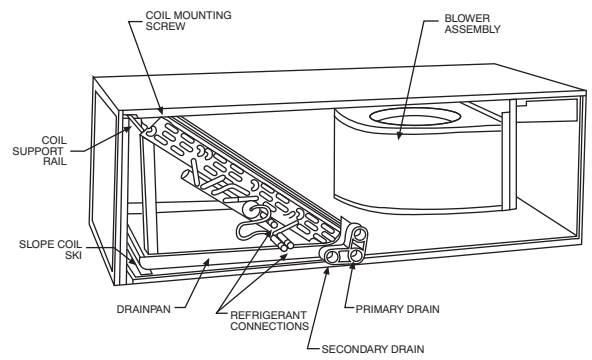

Fig. 5 - Conversion for Horizontal Right Applications
1. Remove blower and coil access panel and fitting panel. (See Fig. 5.)
4. Lay fan coil unit on its right side and reinstall coil assembly with condensate pan down. (See Fig. 5.)